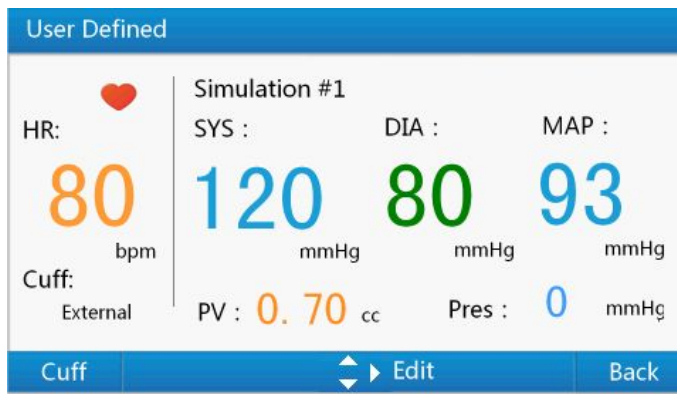

Figure 22 User defined BP simulation interface
- 1) Select **"User-Defined"** in **"BP Simulation Menu"** or use number key **"0"** to the user defined BP simulation interface shown as Figure 22.
In this interface, press right key to the edit interface shown as Figure 22. In edit interface, press left or right key to select the parameter to be edited, use number keys to input parameter and after entering a digit, the cursor will automatically move to next digit for input. After inputting the BP parameter, press **"Enter Key"** to save. In this interface, pressing **"Return Key "** can get back to the user defined BP simulation interface.